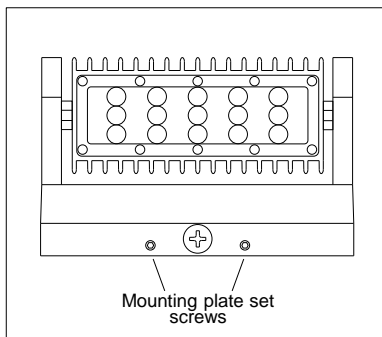

Figure 1
1. Remove mounting plate from luminaire. Begin by loosening the mounting plate set screws at the bottom of the luminaire housing (see Figure 1).